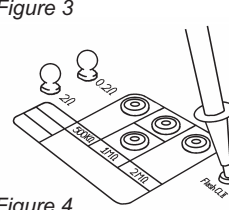

Figure 4
- 5) **Class II Flash Test** Disconnect the black link which is used to select the Class I Flash current test value. Connect the Flash probe to the PAT tester and to the Flash CL II terminal on the front of the PowerCheck 1557 (see Figure 4). Perform a Flash test, the PAT tester will indicate the test measurement taken which is used for verification of functionality only.